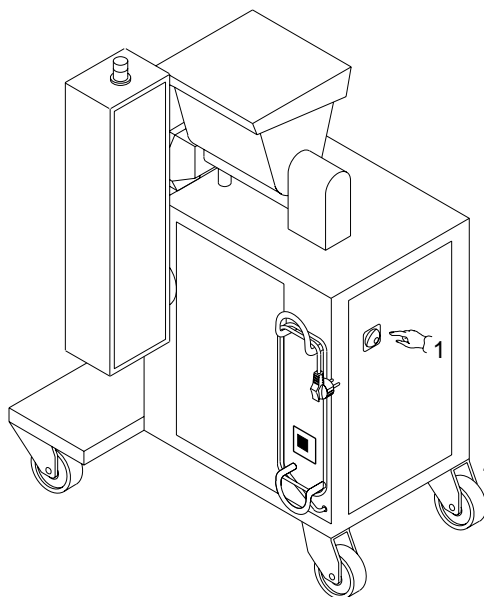

Fig. 4.6
- b. Turn the main switch located on the rear panel of the machine (*Pos.1 Fig.4.6*).